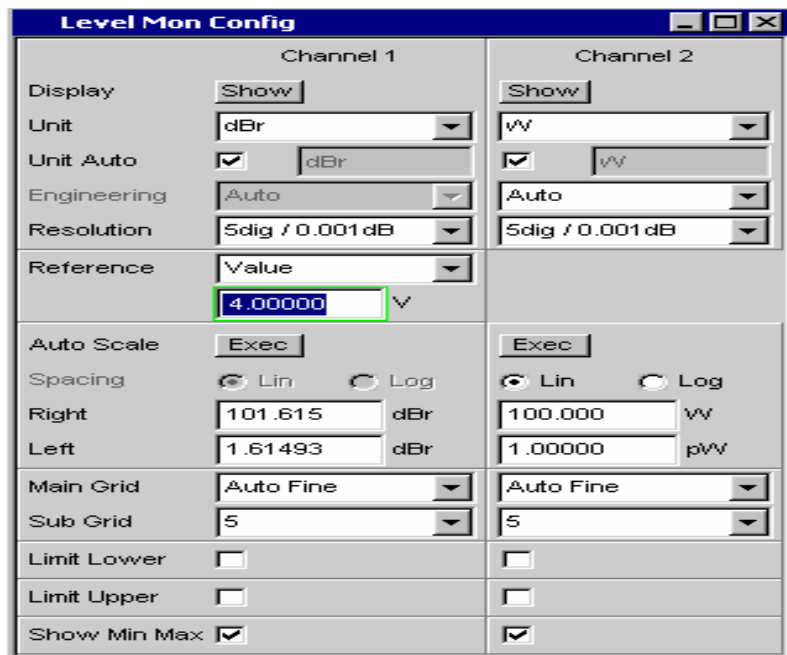

Figure 6: Set the unit of the level measurement to be 'dBr'.
2. In Level Mon Config panel, set the unit to be 'dBr' and the reference value to be $U_{\text{ratedsource}}$. Adjust the volume control to obtain an output voltage of -10 dB referred to the rated output voltage, shown as in Figure 6.